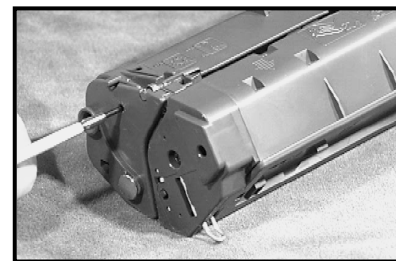

Figure 1
1. The cartridge halves are held together by straight pins (located at both ends of the cartridge- fig.1). If the pins are protruding from the cartridge, pull them out with the pin pulling pliers. If not, use a punch to press the pins in. **Note:** Turn the cartridge over so that the pins will not fall on the surface of the OPC after they are pushed in.